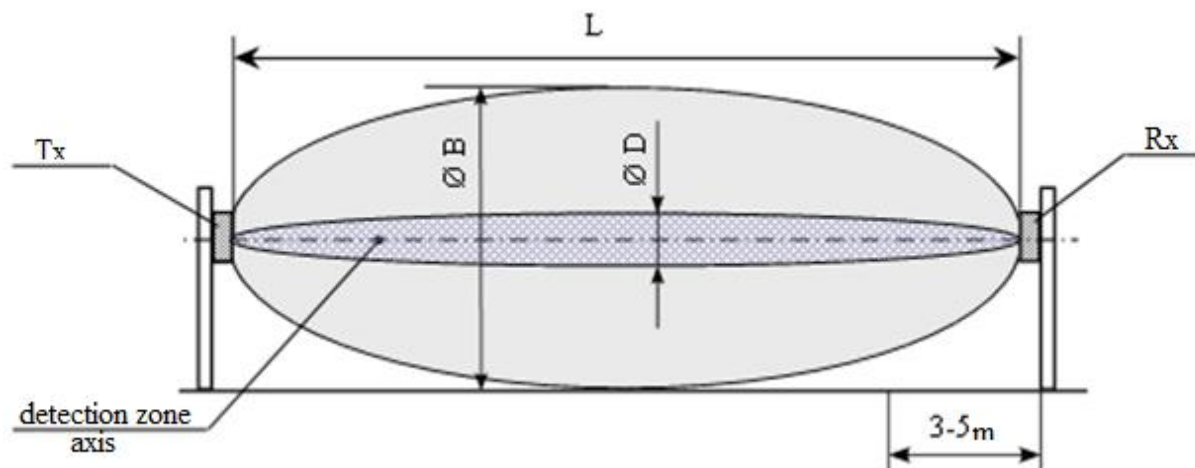

Fig. 3.1
- 3.3.** The detection zone configurations (microwave and infrared) and their dimensions are given in fig.3.1 and table 3.1.
In fig.3.1 and table 3.1 the diameter ( $B$ ) of the microwave detection zone and the diameter ( $D$ ) of the infrared detection zone are given for the middle of the protected sector. Moving towards the receiver or transmitter these dimensions decrease gradually up to the geometry of the receiver and transmitter.
The sensor principle of operation is based on generation of an electromagnetic field between Tx and Rx. This field forms a volumetric detection zone in the form of a long ellipsoid of rotation. The sensor also generates an infrared ray (fig. 3.1). The sensor registers changes of the field and overlapping of the infrared ray when an intruder crosses the protected zone.